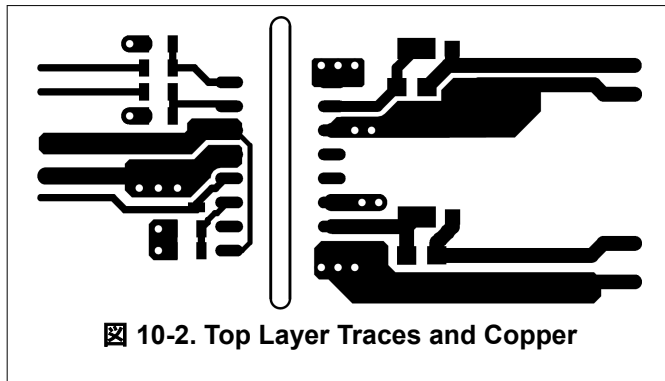
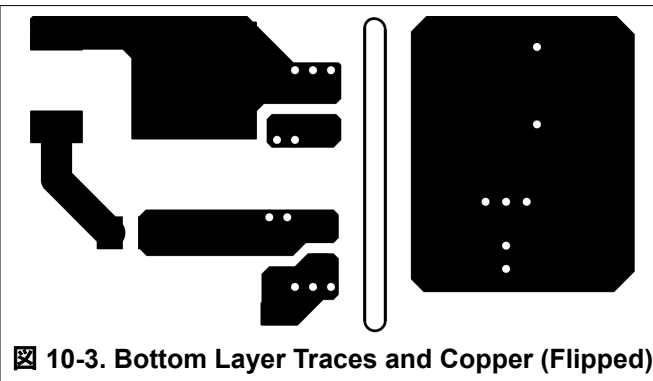

Figure 10-2. Top Layer Traces and Copper
Figure 10-3. Bottom Layer Traces and Copper (Flipped)
- Increasing the PCB copper connecting to VDDA, VDDB, VSSA and VSSB pins is recommended, with priority on maximizing the connection to VSSA and VSSB (see 図 10-2 and 図 10-3). However, high voltage PCB considerations mentioned above must be maintained.
Figure 10-2 and Figure 10-3 show top and bottom layer traces and copper.